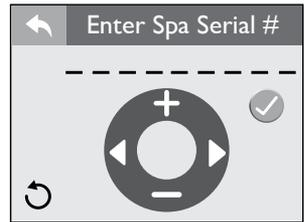

Figure 10.2c
2. Input the 9-digit serial number, Figure 10.2c. If your serial number begins with a letter, use the **-** or **+** buttons until the letter is displayed.